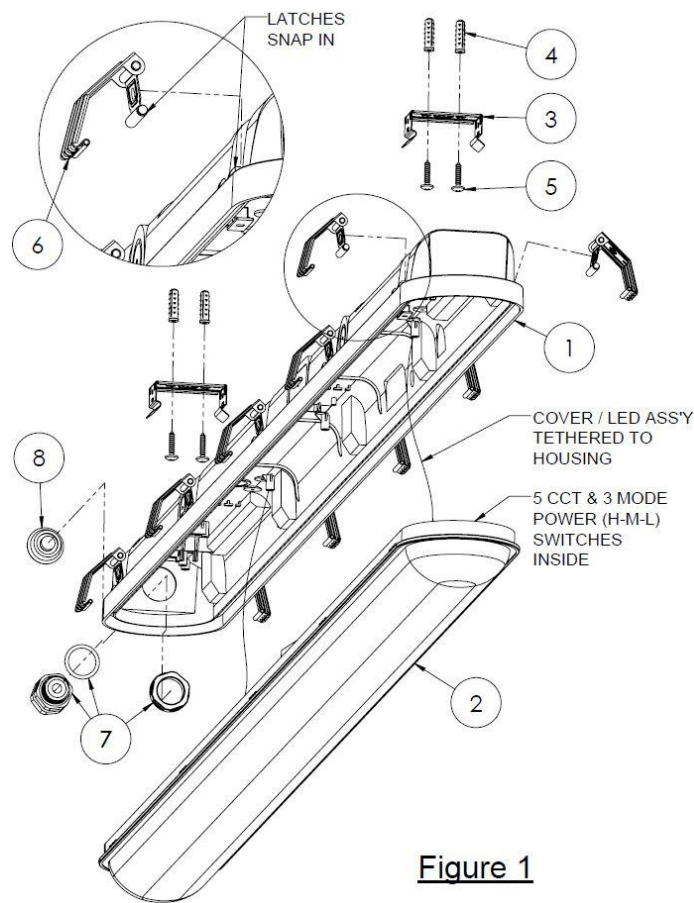
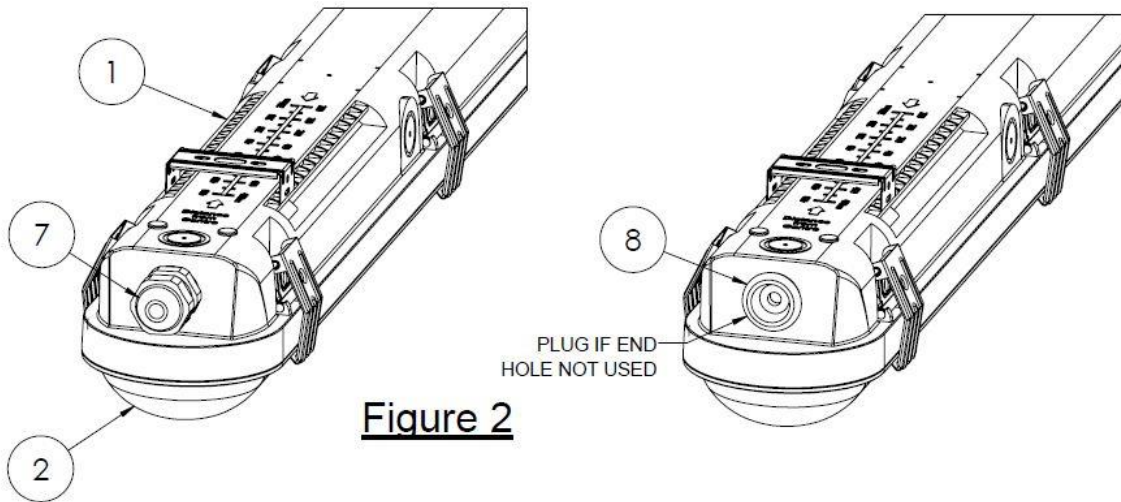

Figure 1
Figure 2
- Release the cover (2) from the housing (1). Note. The LED plate assembly is secured to the cover and is removed as a single unit. The LED plate remains tethered to the housing (1), as shown in **Figure 1**.
- Identify location of mounting brackets (3) on fixture relative to power source. Holes are supplied for power connection at end or through the top. Fitting (7) supplied if end location is used, **Figure 1**. If top is used for connection, there are two holes to guide locations for drilling, **Figure 2 & 3**. Plug (8) is supplied for end hole if the connection will be through the top.
- Install latches (6) onto the housing (1), 10 places per **Figure 1**.